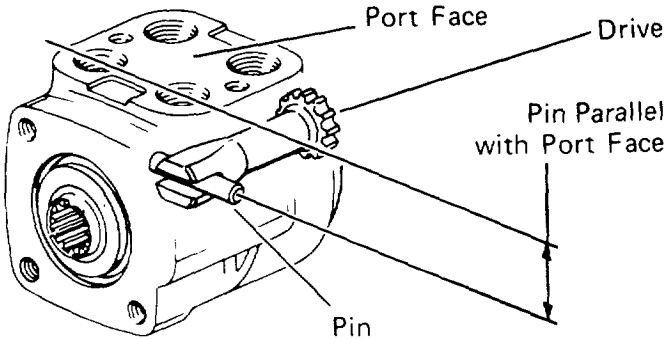
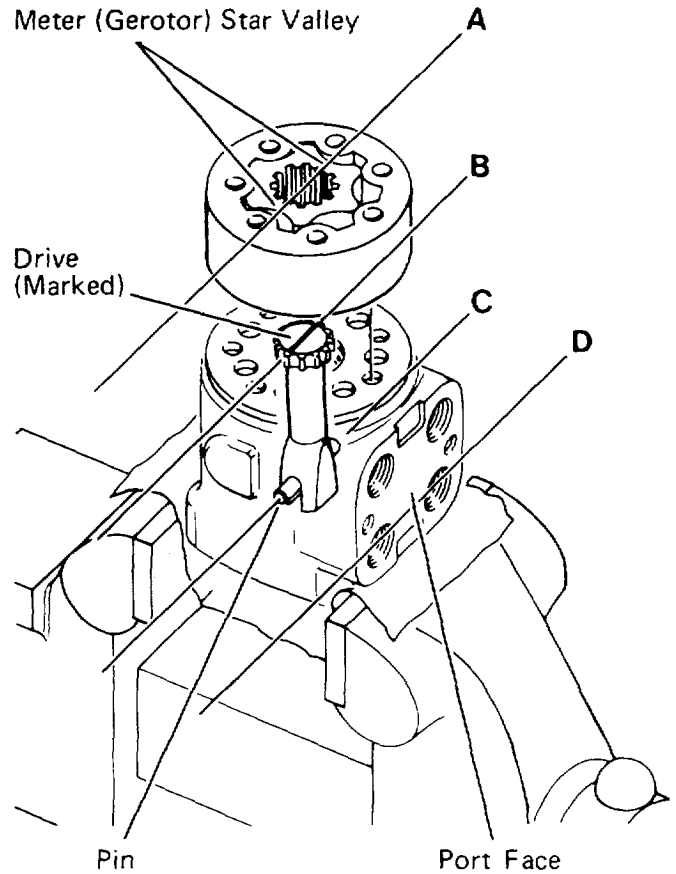

Figure 22
Figure 24
- 21. Rotate spool and sleeve assembly until pin is parallel with port face, see Fig. 22. Install drive, make sure you engage drive with pin. To assure proper alignment, mark drive as shown in Fig. 24 (ref. B). Note relationship between slotted end of drive to splined end of drive when marking.
- 23. With seal side of meter toward spacer plate, align star valleys (ref. A) on drive (ref. B). Note the parallel relationship of reference lines A, B, C, and D-Fig. 24. Align bolt holes without disengaging meter from drive.